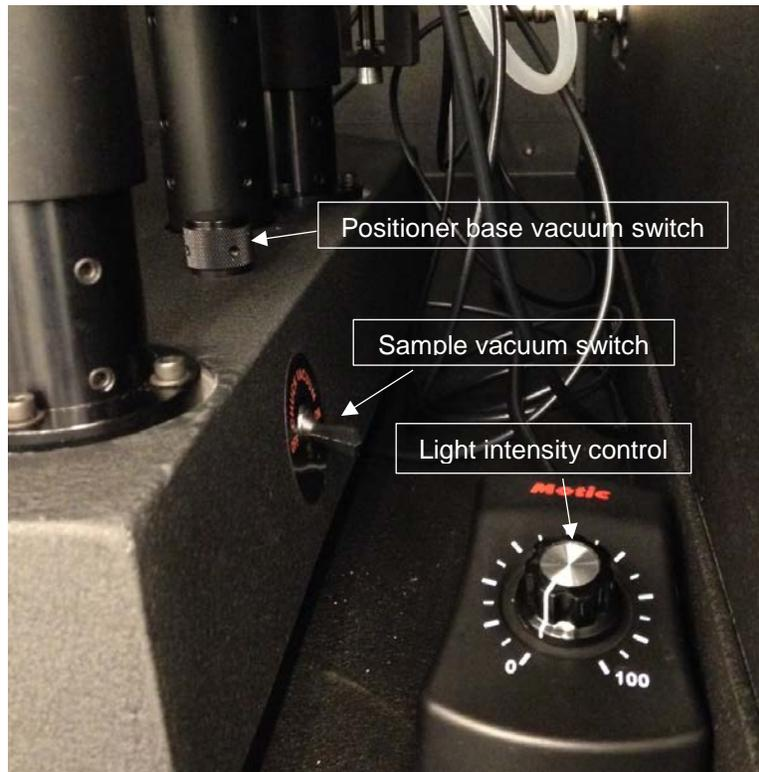

Figure 4: Vacuum and light intensity control
3. Cover the middle hole with your sample and switch on the vacuum on the side of the base (see Figure 4)
5. Switch on the vacuum to hold the positioners (Figure 4).
6. Move your sample under the microscope. Adjust focus, magnification and light intensity. The light intensity can be adjusted on the 'Motic' knob in Figure 4.